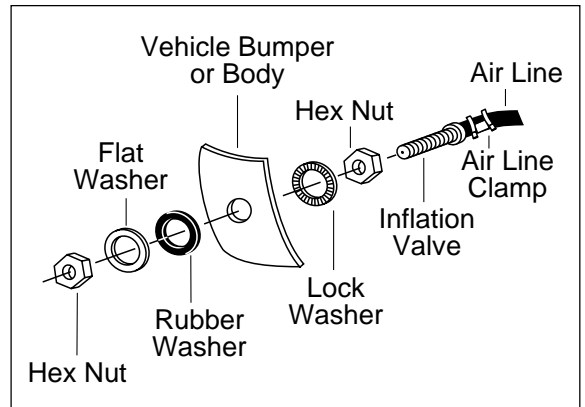

Figure 6
- l. Drill a  $\frac{5}{16}$ " hole for inflation valve and mount as in illustration (Figure 6). Rubber washer is for outside weather seal.
- h. Drill  $\frac{5}{16}$ " hole for inflating valves and mount as illustrated. Rubber washer is for outside weather seal (Figure 6).